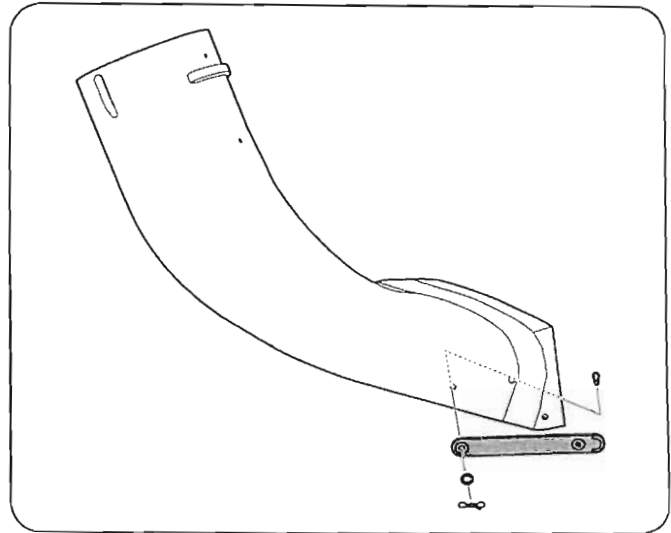

Figure 4-19
- Install the rubber chute strap on the chute elbow using the supplied clevis pin, washer and Bow-tie cotter pin. See Fig. 4-19.